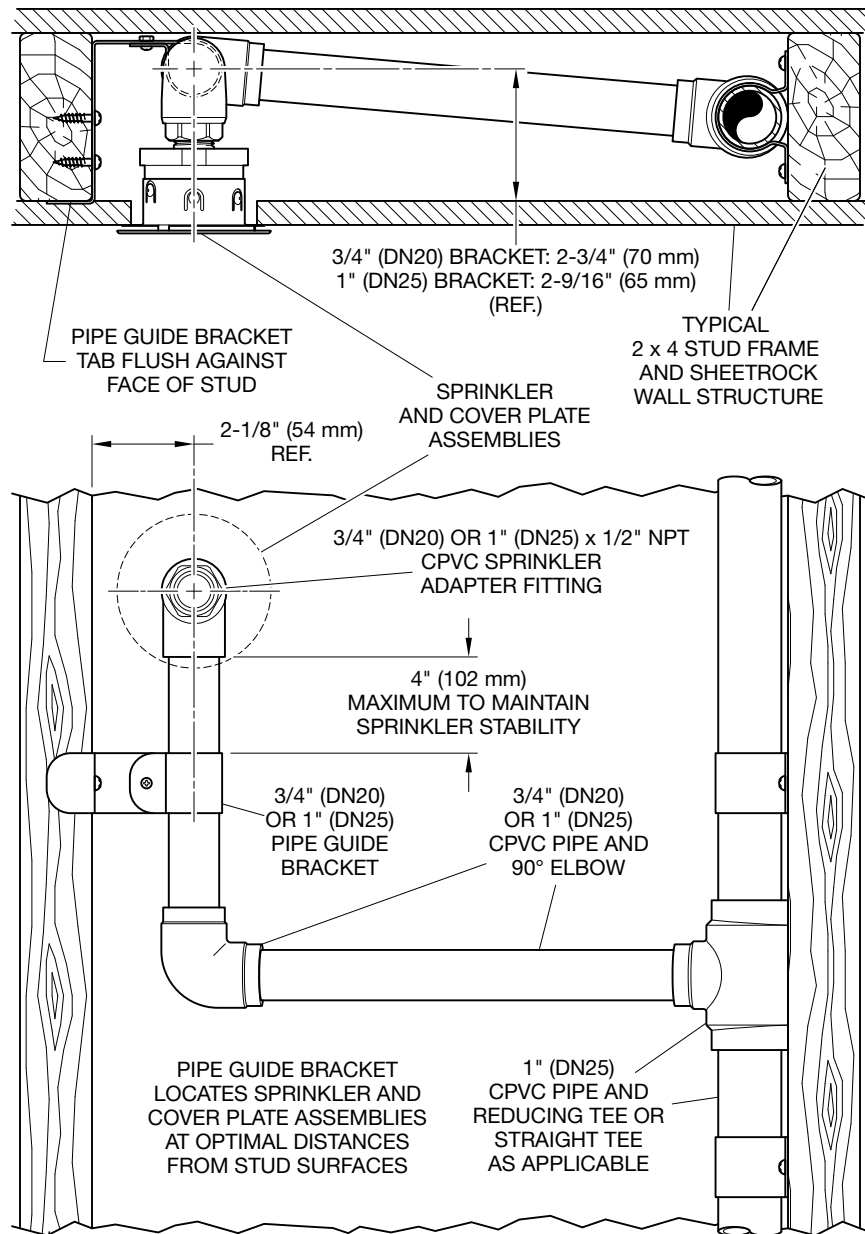

FIGURE 4
Step 1. To ensure that the sprinkler is located the correct distance from the face of the surface wall, use the provided pipe guide, included with each sprinkler TY2324, and attach it to the 3/4 or 1 in. CPVC pipe and the 2 x 4 inside the wall, as shown in Figure 4. The sprinkler must only be installed with its centerline perpendicular to the back wall and parallel to the ceiling. Use a W-Type 37 Wrench for installation. The wrench contains an outer flat surface reference that correlates with the sprinkler deflector orientation. The word "UP" on the installation wrench is to face towards the ceiling to ensure proper alignment.